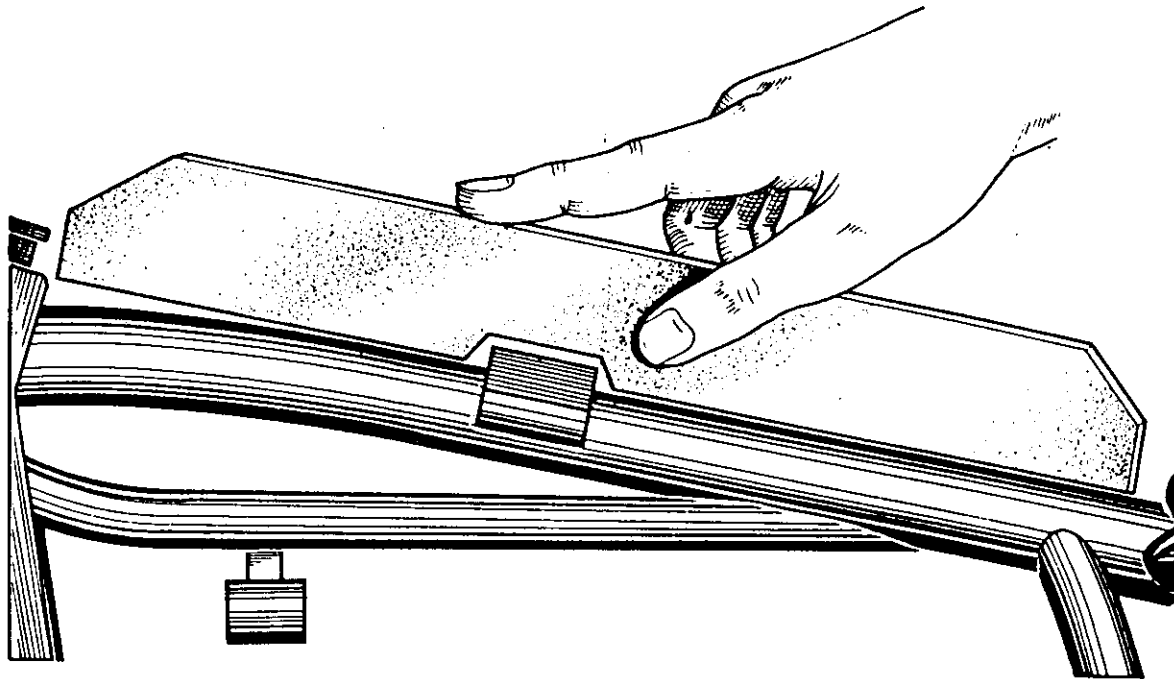

FIG. D.4. *Showing bent top tube.*
Sometimes if the machine has suffered a frontal impact, the main tube will be parallel at points (A) but will be bent as shown in Fig. D.4. The straight-edge can be made quite easily from say, a piece of good quality hardboard but the checking edge must be quite straight.